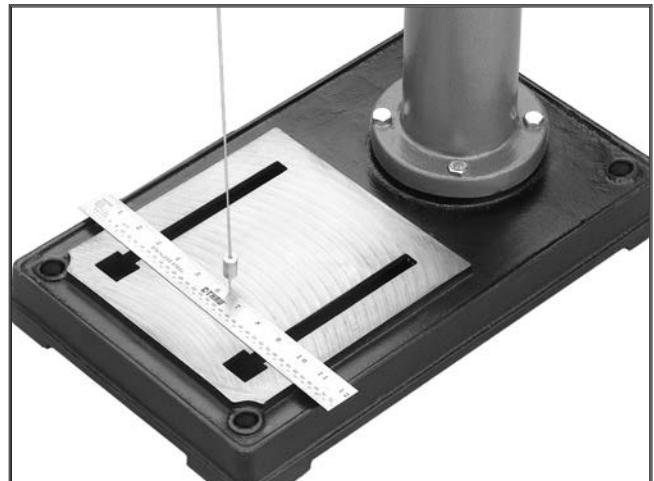

Figure 21. Aligning headstock with base.
17. Suspend a plumb bob from center of headstock spindle so it is over tape/ruler as shown in **Figure 21**.
18. Center headstock directly over base as indicated by plumb bob and ruler (see **Figure 21**).